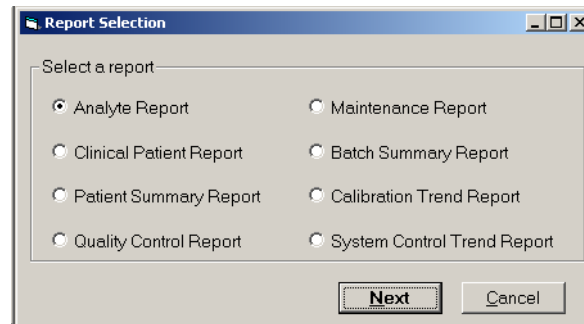

Figure 5-94 Report Selection Dialog Box
The Luminex 100 IS 2.3 software can format your batch or multi-batch results in a variety of report formats and provide different types of information in different types of reports. See Figure 5-94. These reports include:
The **Report Selection** dialog box opens. See Figure 5-94.
2. Double-click **ReportApp.exe**. The **Report Selection** dialog box opens. See Figure 5-94.